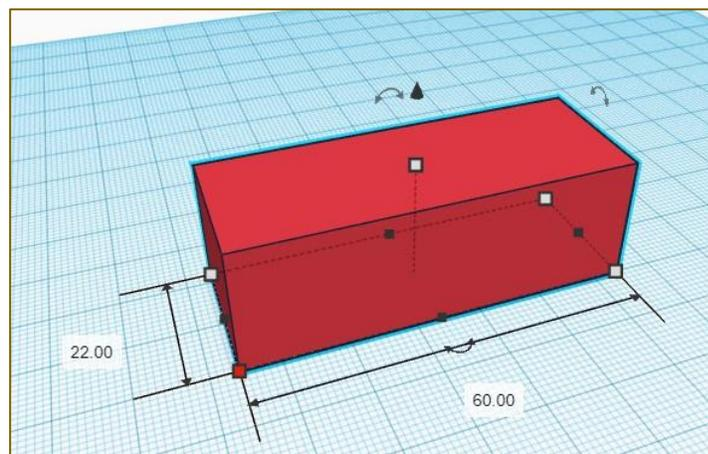

Fig.2.14 Box of mentioned depth and width
3. Click and drag the box into a rectangle, roughly 60mm long by 22mm wide. (Refer fig. 2.14)